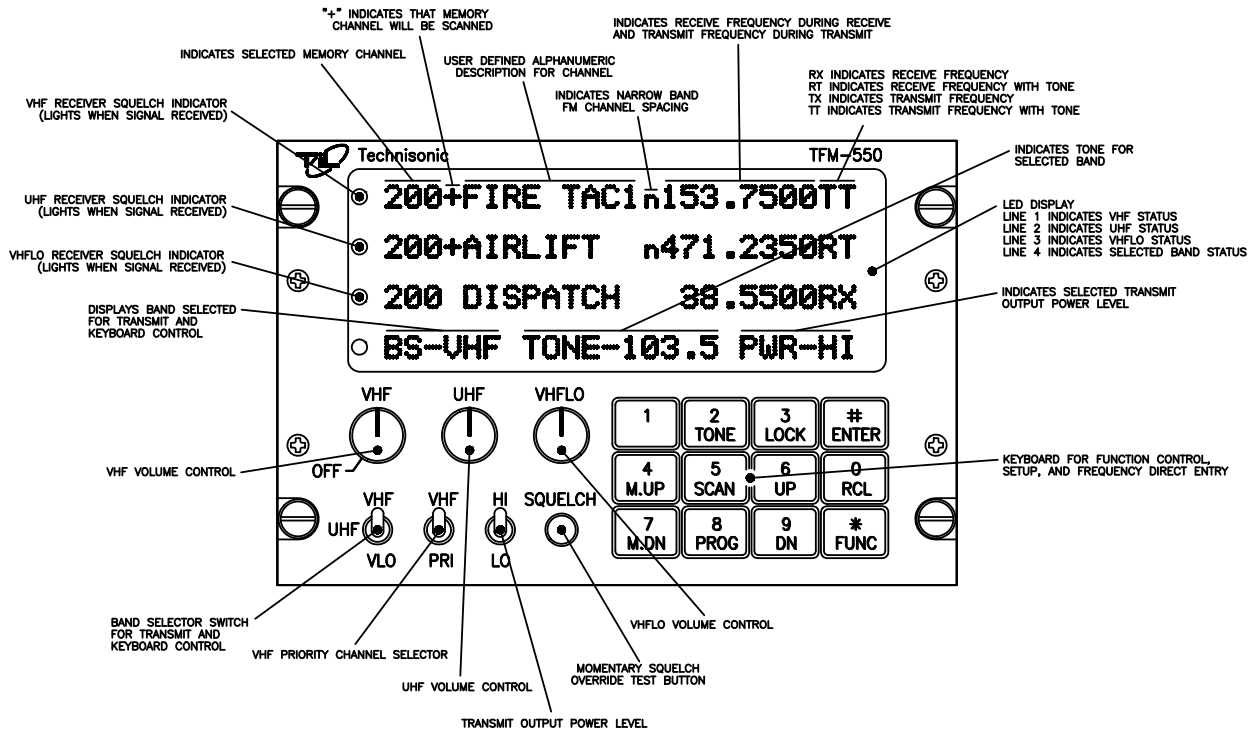

FIGURE 2-1 TFM-550 Operator's Switches and Controls
2.2 OPERATING INSTRUCTIONS (See Figure 2-1)